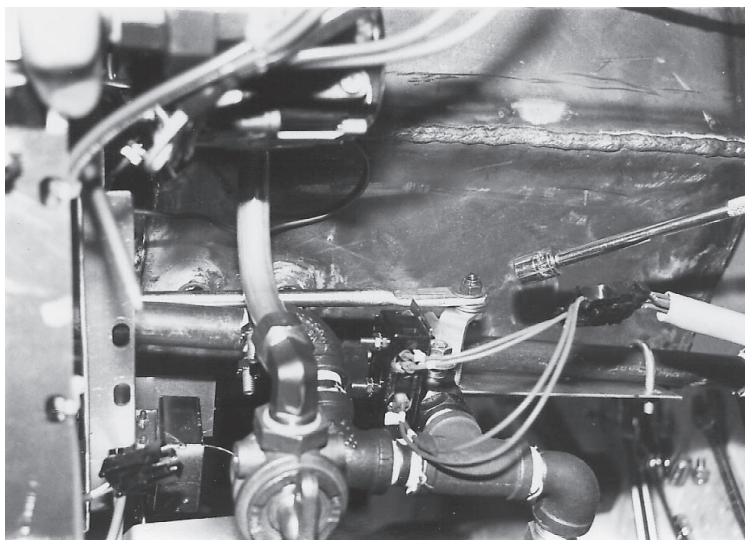

Fig. 90
28. With a 7/16" socket remove all the pull rod hardware from the micro switch assembly. (Fig. 90)